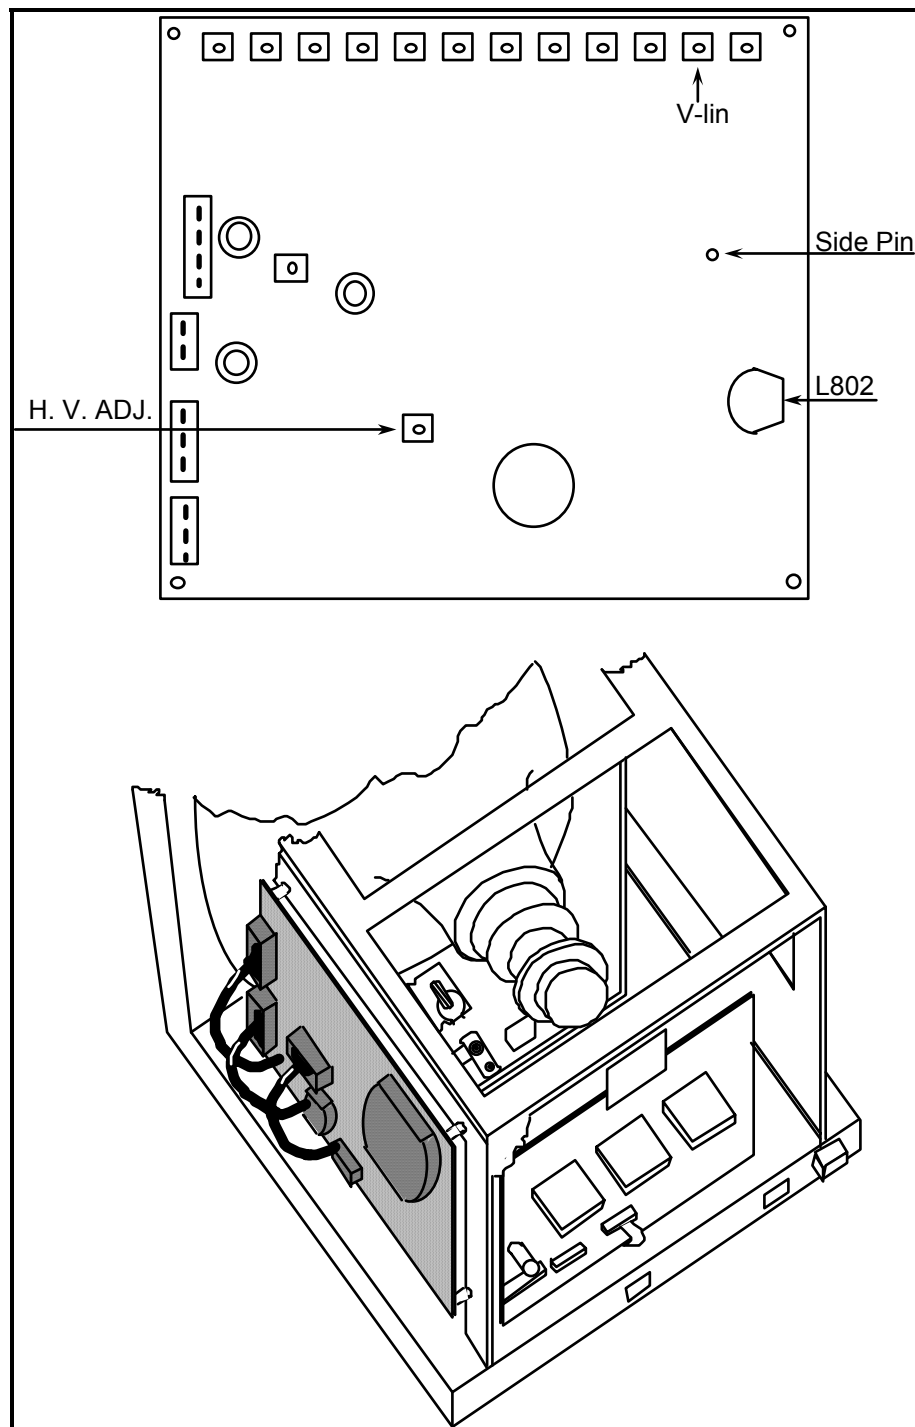

Figure 5-2 — Location of Controls on DFL-009 for Linearity and Geometry Adjustments
The controls for Linearity and Geometry are: Vertical Linearity (V-Lin) and Side Pincushion (SIDE PIN). Correction for horizontal linearity is made by adjusting Horizontal Linearity Coil. Top and bottom pincushion correction is built into the CRT yoke. See Figure 5-2 for location of controls on the DFL-009 circuit card.
1. Horizontal Linearity (L802)—This control adjusts the linearity of the display side-to-side with reference to the center. Rotating the thumbwheel on the side of the coil (taking care not to touch exposed terminals), changes the left side of the display, stretching or compressing the width of the blocks. Position the thumbwheel so that the width of the blocks on the left are equal to those on the right. See Figure 5-2.
2. Adjust the Red Bias (R BIAS), Green Bias (G BIAS), and Blue Bias (B BIAS) controls, aligning the adjustment slot to the six o'clock position. See Figure 5-2.
7. If the reading is not within this range, check the HIGH VOLTAGE (H.V. ADJ.) control on the deflection card DFL-009. See Figure 5-2. If sealed, remove power, replace the control (use only an exact duplicate part), adjust control to full counterclockwise direction and wait 15 minutes for the voltage to stabilize.